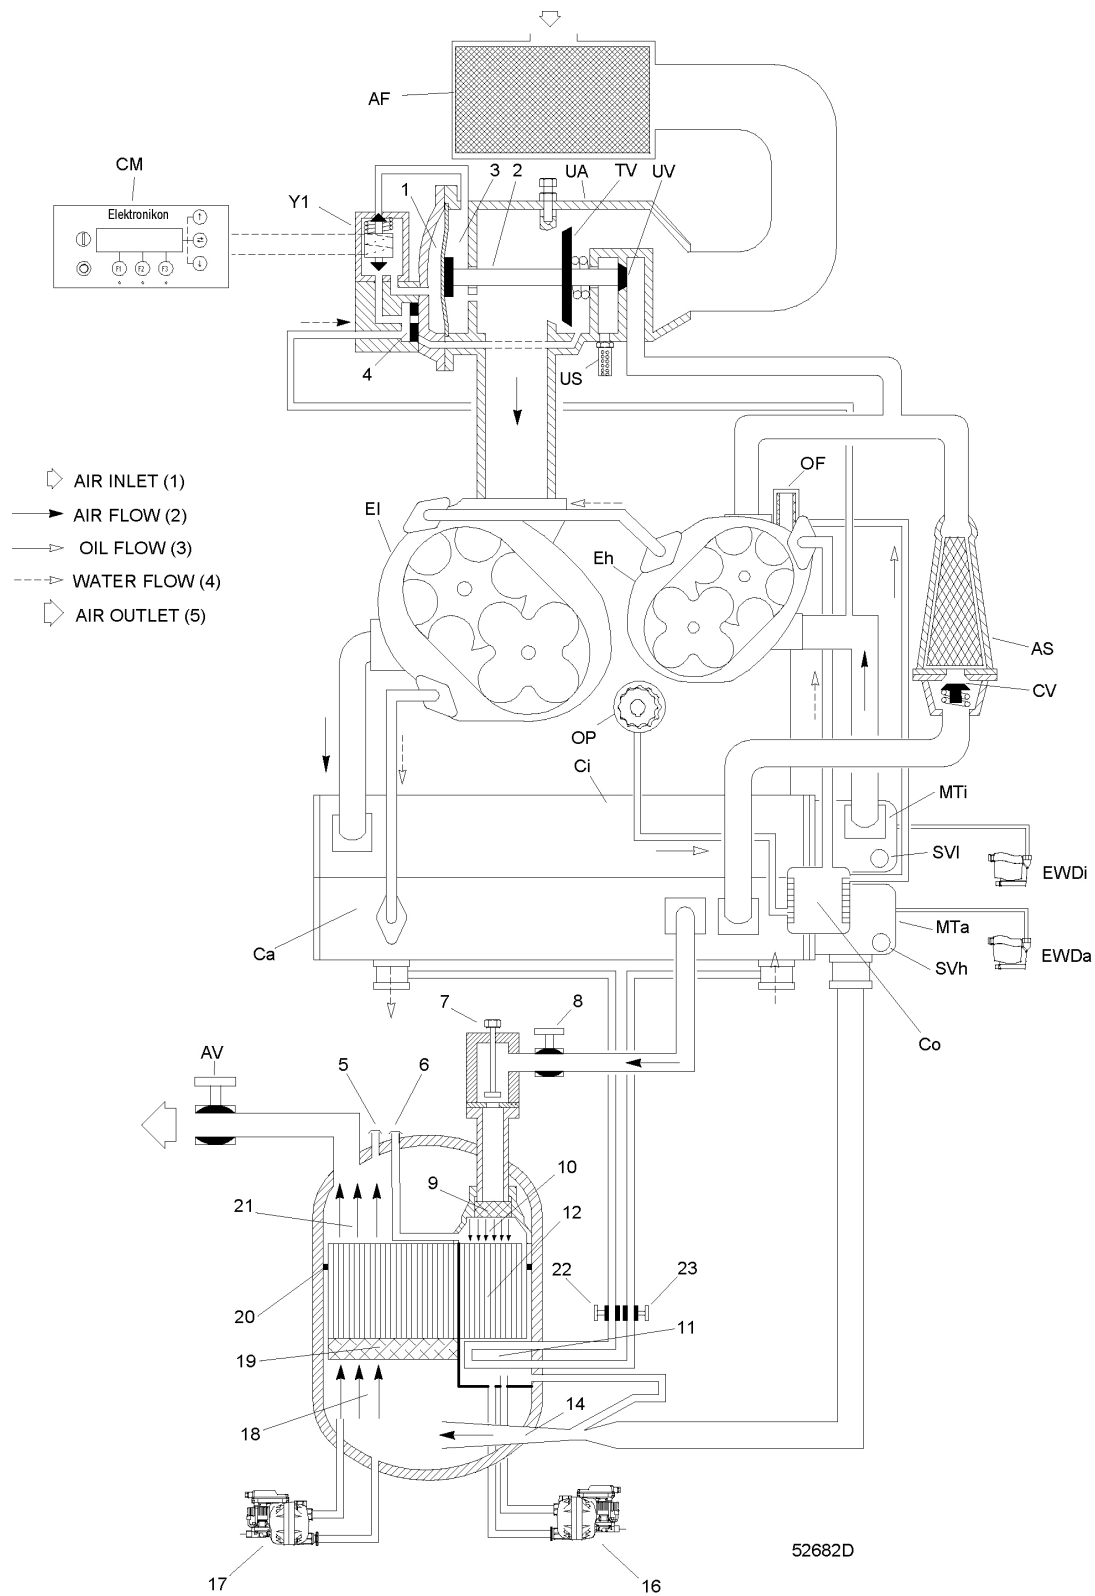

Fig. 1.6 Flow diagram/regulating system, ZR
1.2 Air flow (Figs. 1.6 and 1.7)
1.3 Condensate drain system (Figs. 1.6, 1.7 and 1.8)**1.3.1 Description**
Figs. 1.6 and 1.7 Flow diagrams/regulating systems
Text on Figs. 1.6 and 1.7
ZR compressors (Fig. 1.6)